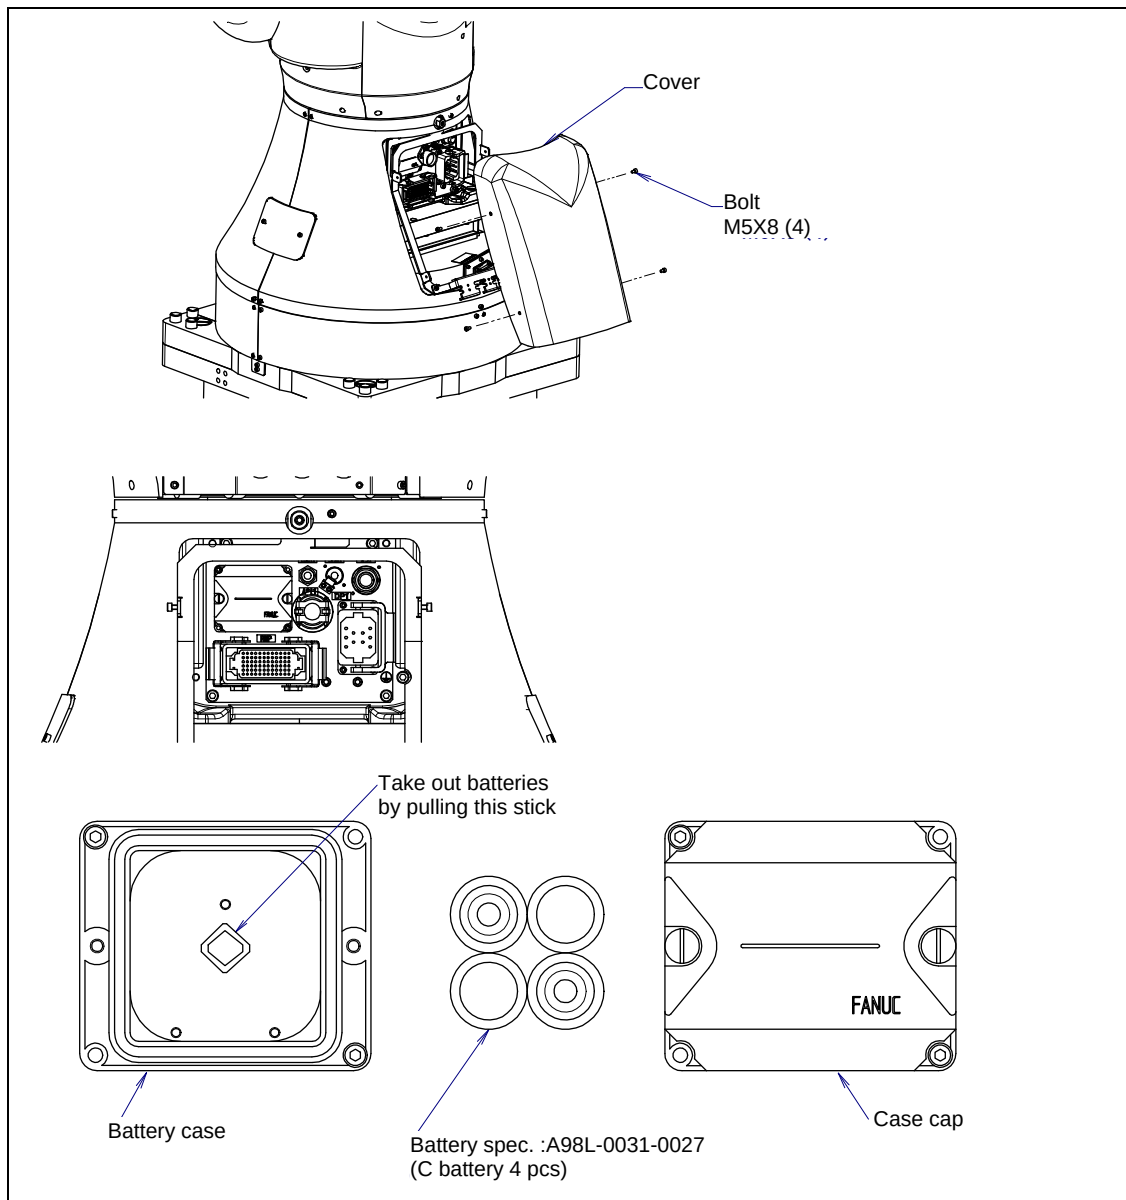

Fig. 7.3.1 Replacing the battery
- 3 Remove the battery case cap. (Fig. 7.3.1) If it cannot be removed, tap it to side direction with a plastic hammer.